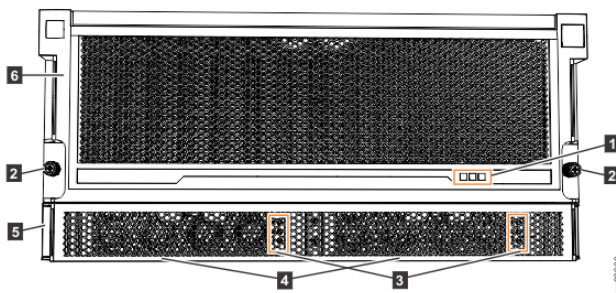

Figure 50. Features on the front of the 5U expansion enclosure
Important: Before you connect the power cables to the rear of the enclosure, always check that the expansion enclosure is secured in the rack. If needed, tighten the thumbscrews on the front of the enclosure (2 in Figure 50 on page 92) to ensure that the enclosure drawer does not roll open.
The 5U expansion enclosure has two power supply units (PSUs) that are accessible from the front of the enclosure (4 in Figure 50 on page 92). As the figure also shows, the PSUs are covered by the 1U fascia (5).
On the front of the enclosure, the indicators on the front display panel and each PSU (1 and 2 in Figure 50 on page 92) are also lit when the power is connected. See “High density expansion enclosure LEDs and indicators” on page 223 for information about the status that is provided by the indicators.